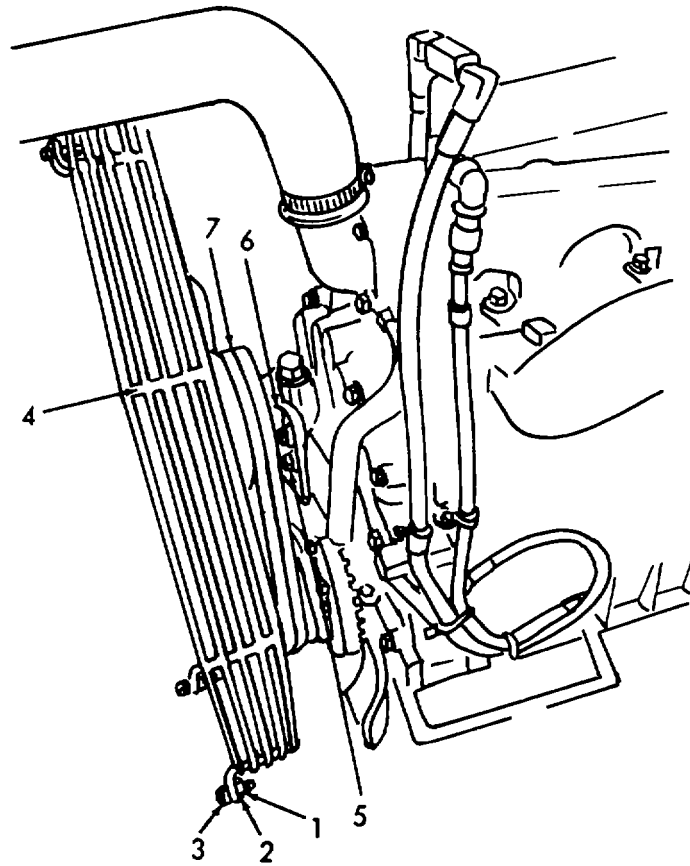

Figure 3-59. Fan Belts, Removal, Installation, and Adjustment.
#### a. Removal. (Refer to figure 3-59).
- (1) Refer to figure 3-59 and slip the matched belt set (7) over the fan blades and into the grooves of the pulleys.
- (2) Tighten bolt (6) to place sufficient tension on the belts so they are held in place in the grooves of the pulleys.
- (3) Install the fan guard using six screws (3), six lockwashers (2), and six nuts (1).
- (4) Adjust fan belt tension per the following paragraph.
- (1) New belts.
- (a) Refer to figure 3-59 and tighten bolt (6) so that a firm push with the thumb, at a point midway between the two pulleys, will depress the belt 1/2 to 3/4 inch.
- (b) When proper tension is obtained, tighten four bolts (5) securing the fan pulley.
- (2) Belt readjustment.
- (a) Refer to figure 3-59 and loosen four bolts (5) securing fan pulley.
- (b) Adjust bolt (6) so that a firm push with the thumb, at a point between the two pulleys, will depress the belt 1/2 to 3/4 inch.
- (c) When proper tension is obtained, tighten the four bolts (5) securing the fan pulley.